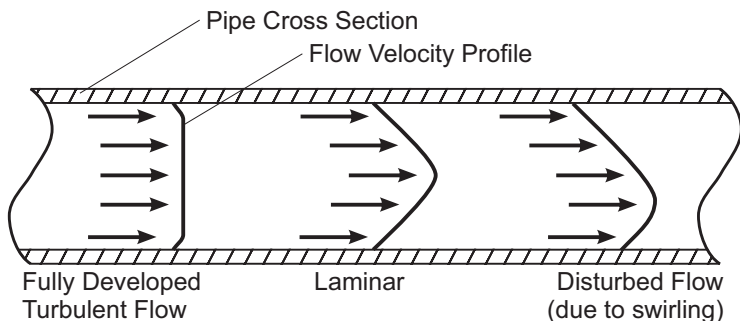

Fig. 3
- There are two basic types of flow profiles; turbulent and laminar (see figure 3). Turbulent flow exists when the speed of the fluid flowing in the pipe is nearly constant across the entire width of the pipe. This is typical of low viscosity fluids; like water, flowing at high velocity. Laminar flow exists when the speed of the fluid flowing in the center of the pipe is greater than the speed of the fluid at the outer edge near the pipe wall. This is typical of high viscosity fluids flowing at low velocity. Because the F-1000 is measuring the fluid near the pipe wall only (especially in larger pipe sizes), a constant flow velocity across the flow stream is required.